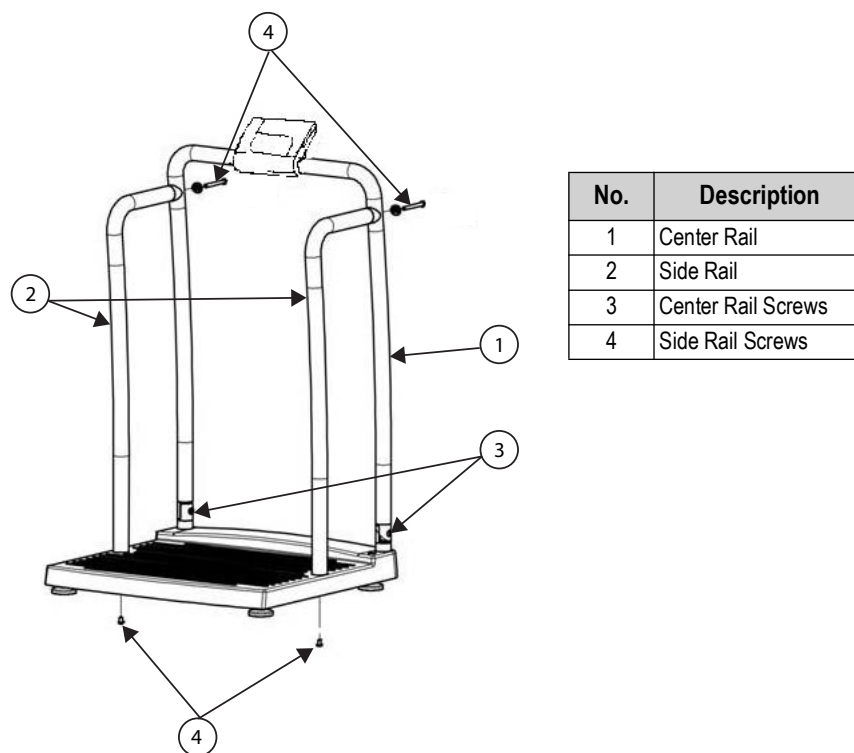

Figure 13. Reassembling the Scale
15. Reinstall the center and side rails (see Figure 13).